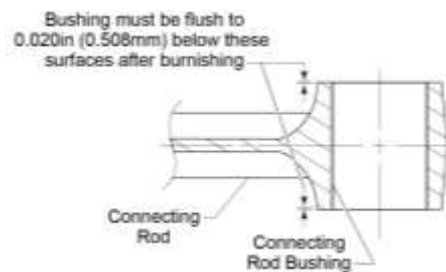

Figure 36
G. Examine the bushing after installation to make sure the bushing is flush to 0.020 in. (0.508 mm) below the connecting rod surface (Figure 36) on both sides of the connecting rod.